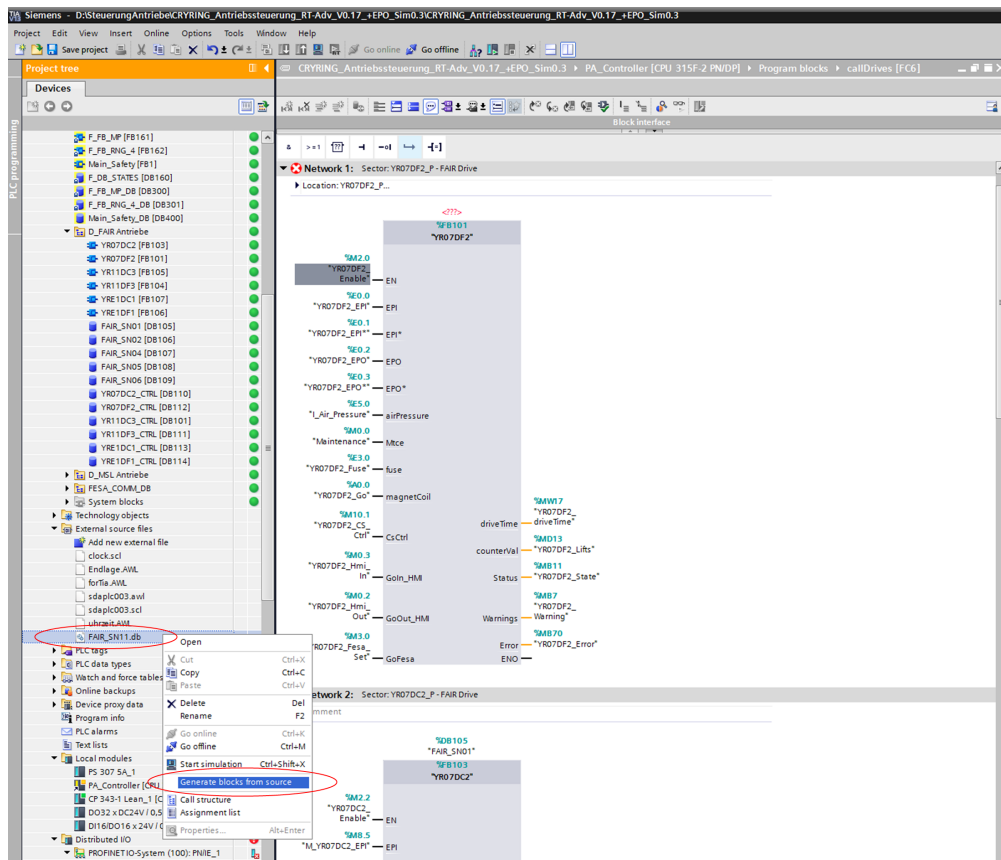

Figure 5: Generate DB from source
10. Right click on the added file → "Generate blocks from source" (Figure 5).